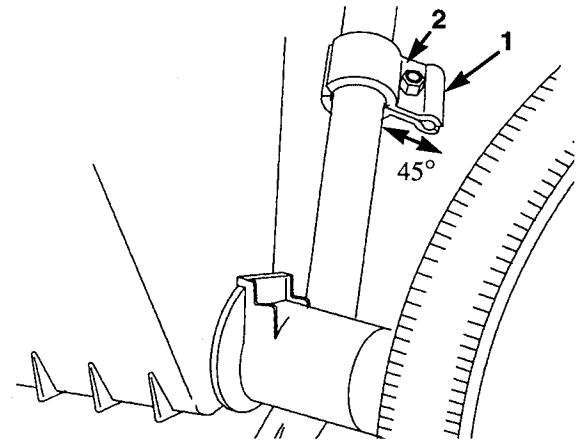

Figure 59
6. Loosely install a clamp to each side of the mower handle, using carriage bolts and lock nuts (Fig. 59). Install the clamps at a 45° angle to the ground. Make sure the clamps slide on the handle.